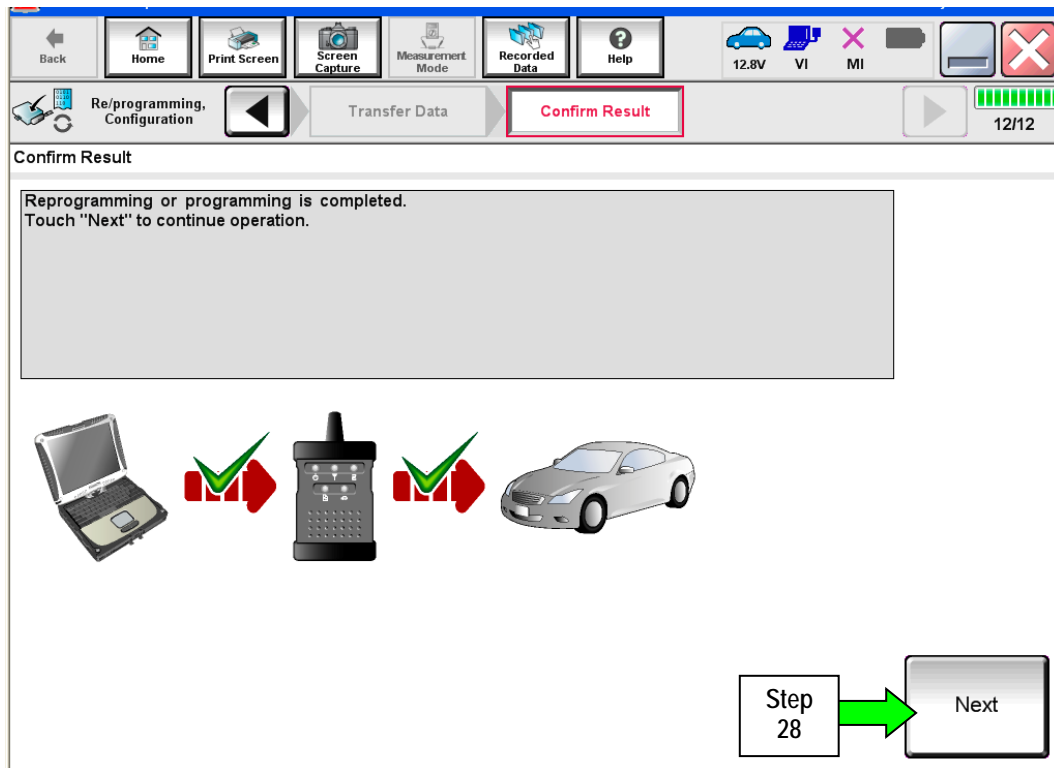

Figure 19
26. When the screen in Figure 19 displays, reprogramming is complete.
NOTE: If the screen in Figure 19 does not display (indicating that reprogramming did not complete), refer to the information on page 15.